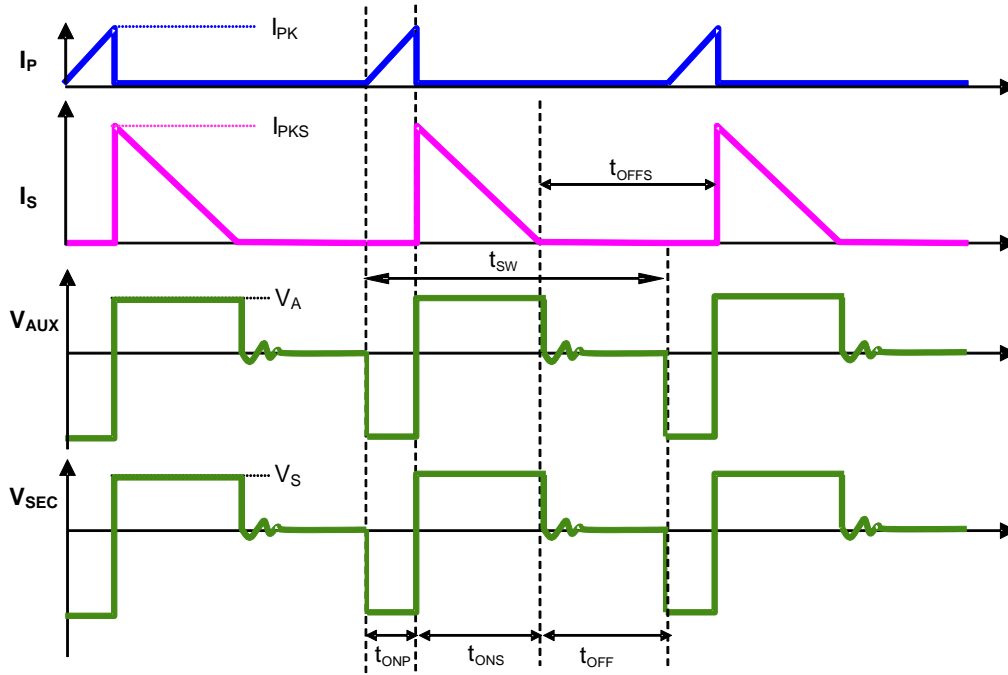

Figure 2. The Operation Waveform of Flyback PSR System
Figure 2 shows the typical waveforms which demonstrate the basic operating principle of AP3783 application. And the parameters are defined as following.
As illustrated in Figure 2, when the current  $i_p(t)$  rises up to  $I_{PK}$ , the switch Q1 turns off. The constant peak current is given by:
The AP3783 can work in constant-current (CC) mode. Figure 2 shows the secondary current waveforms.